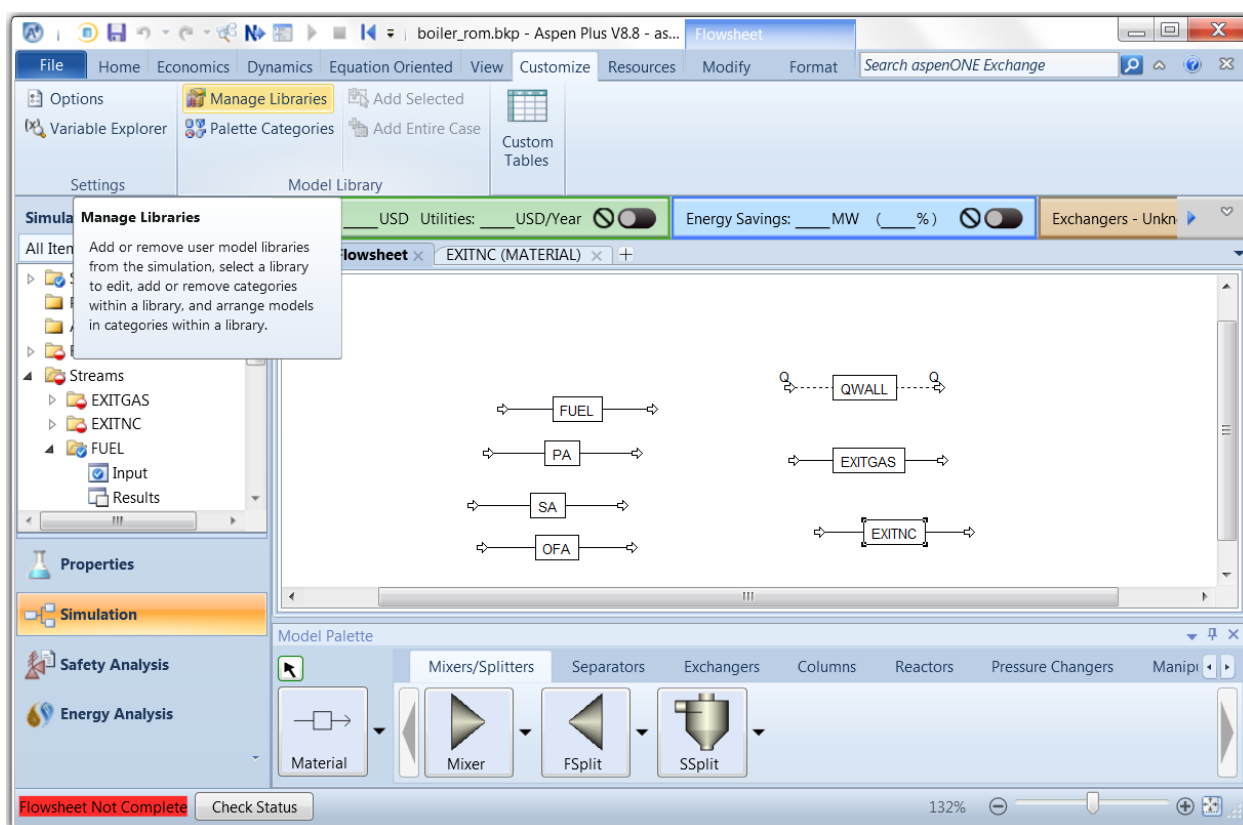
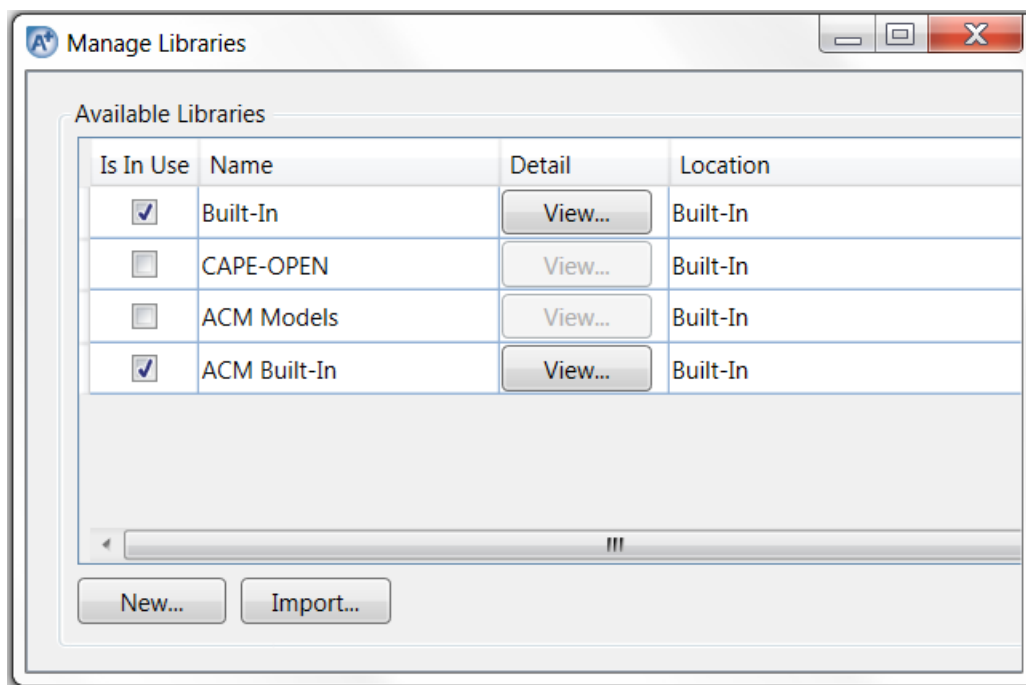

Figure 19: Manage Model Libraries Under Customize Menu
Figure 20: Activating ACM Models in Manage Libraries Window
- To activate the “Boiler_ROM” model, the user needs to issue the “Manage Libraries” command under the “Customize” menu as shown in Figure 19. The “Manage Libraries” dialog window displays as shown in Figure 20. Select the “ACM Models” check box under the “Available Libraries” list. An “ACM Models” tab is added to the model palette. Close the “Manage Libraries” dialog window. Select the “ACM Models” tab at the right of the palette. An icon named “BoilerROM” is displayed.